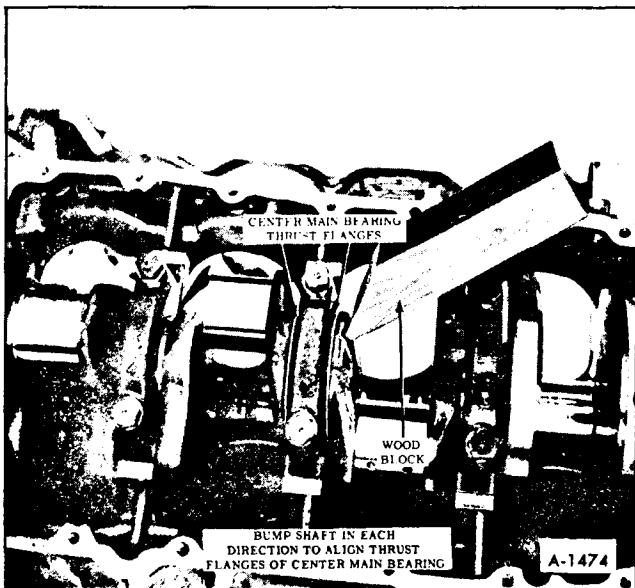

Figure 63—Aligning Center Main Bearing Flanges
5. With a block of wood (figure 63) bump shaft in each direction to align thrust flanges of center main bearing.